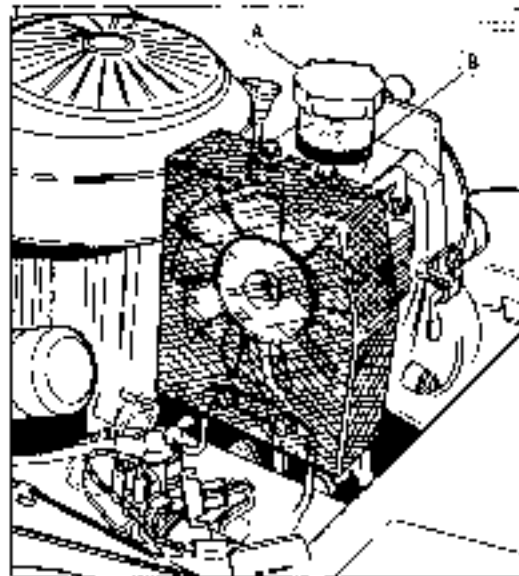

Figure 20. Hydrostatic Reservoir
2. The fluid level is visible in the reservoir (Figure 20) without removing cap. If level should be at FULL/LOUL mark. If not, go to step 3.
9. Check mower belt tension by hand. Belt should be positioned as shown in figure 20.